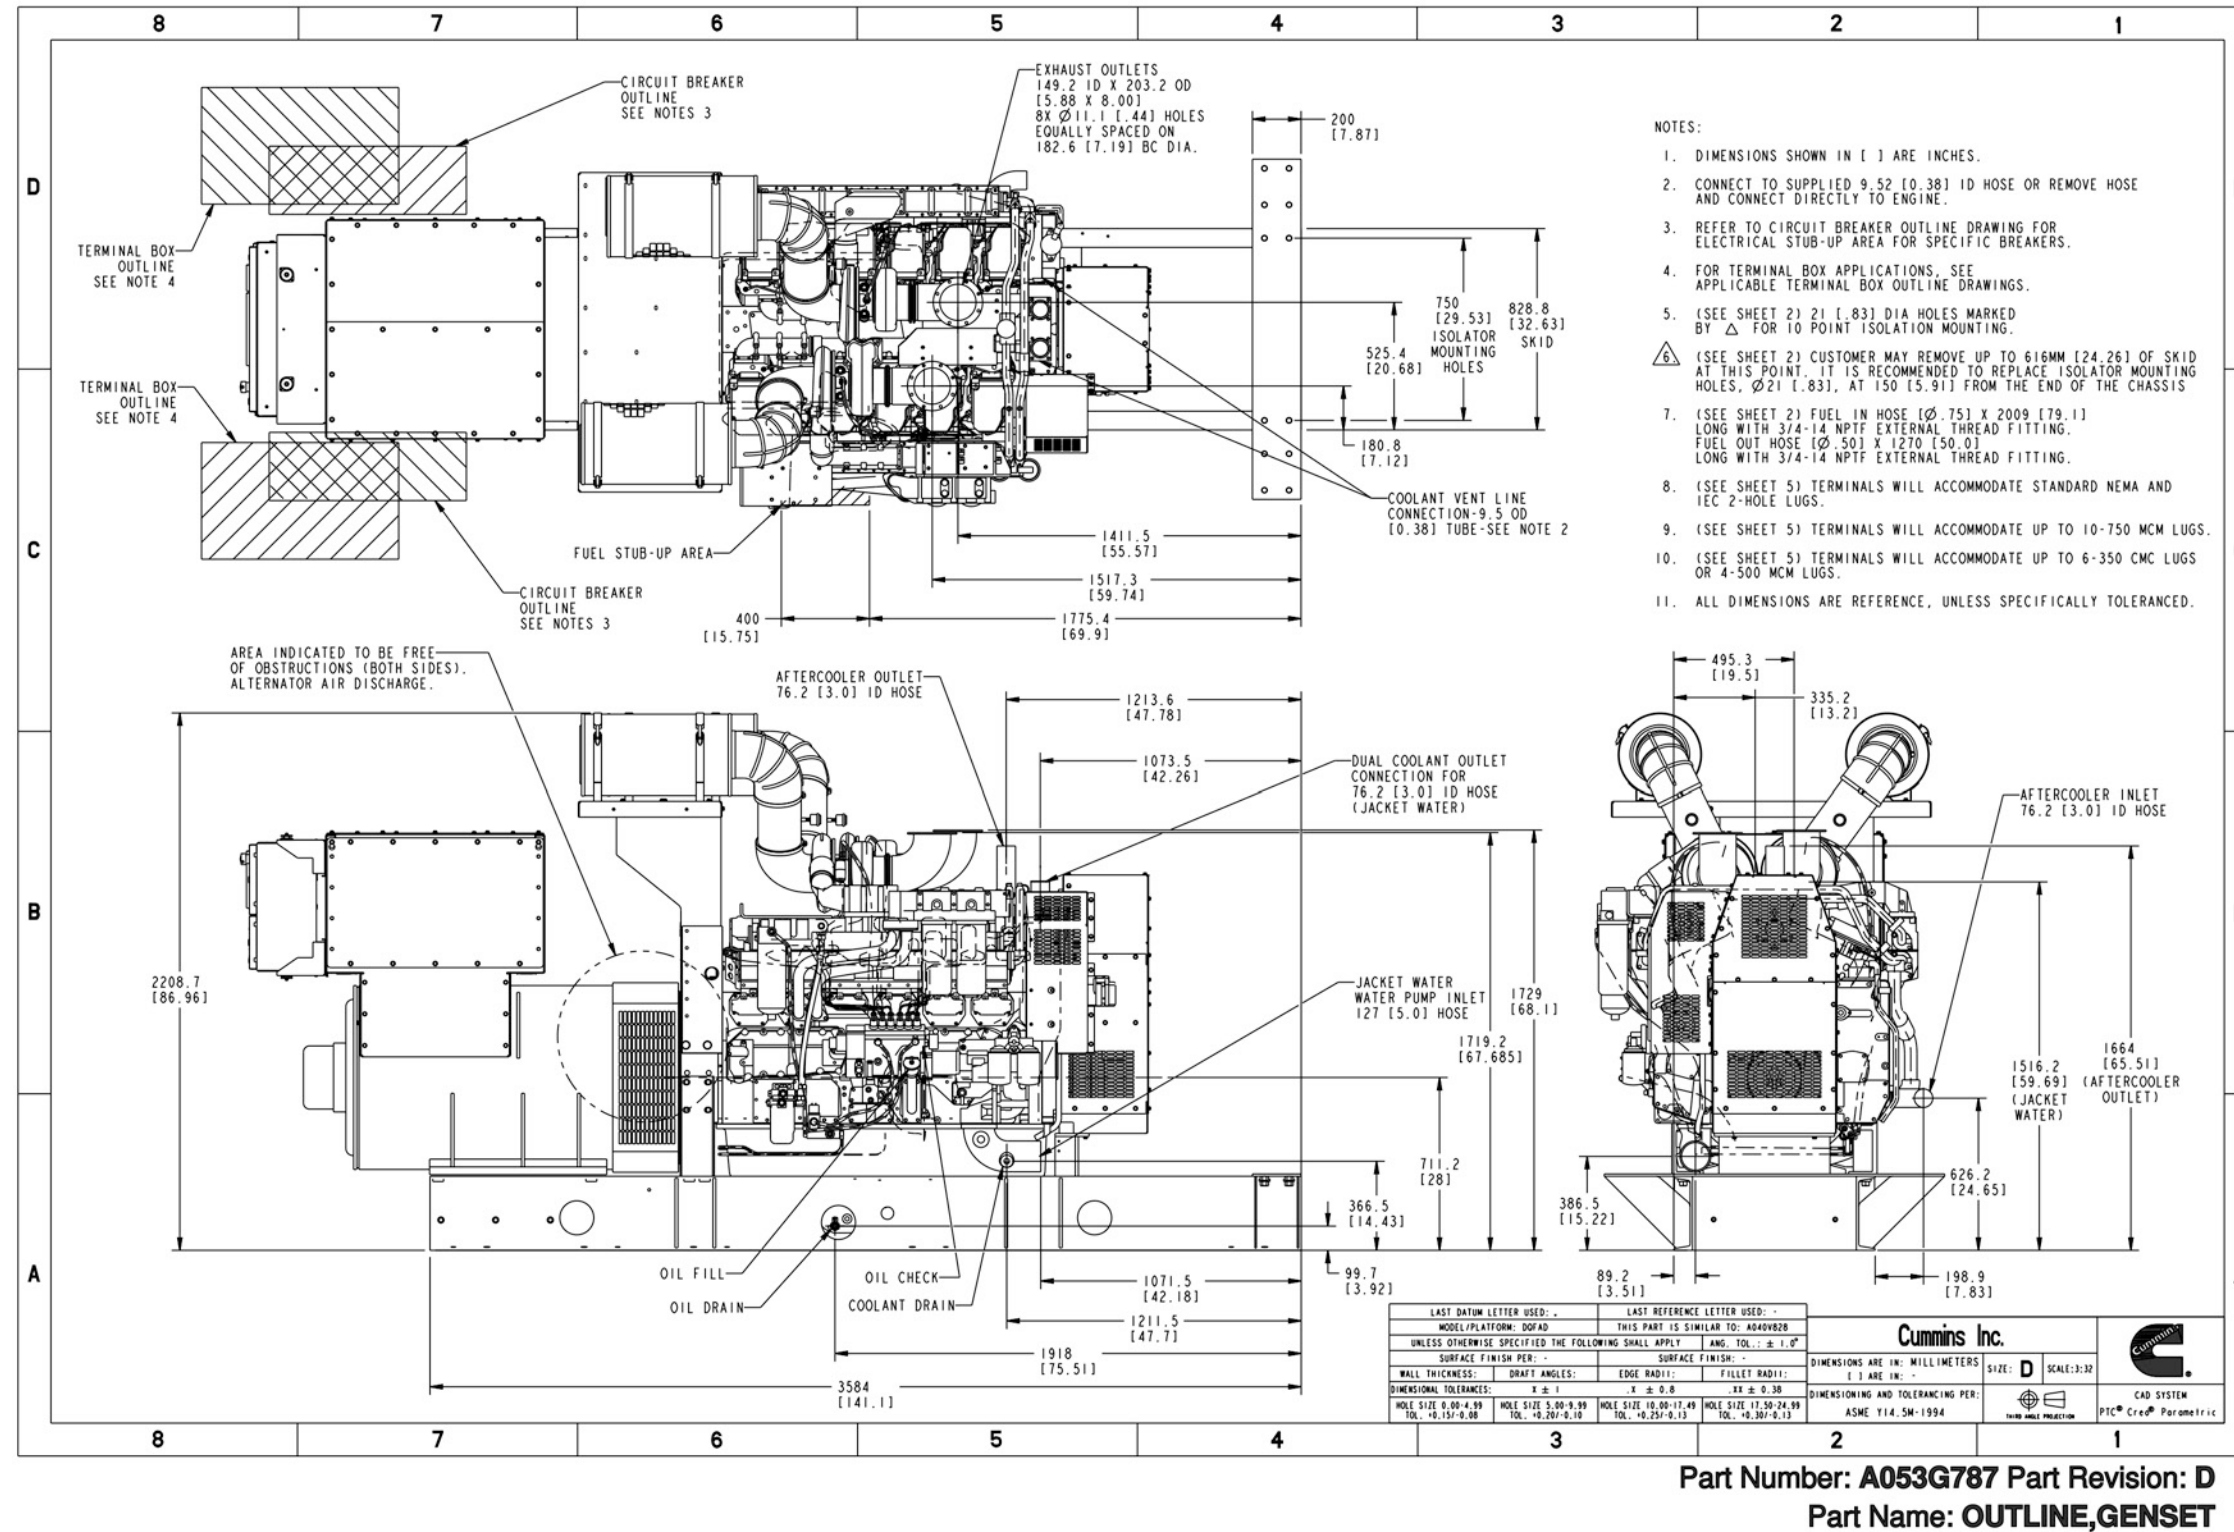

FIGURE 73. GENERATOR SET OUTLINE DRAWING (REMOTE RADIATOR) (SHEET 1)
- Figure 73. Generator Set Outline Drawing (Remote Radiator) (Sheet 1) 139